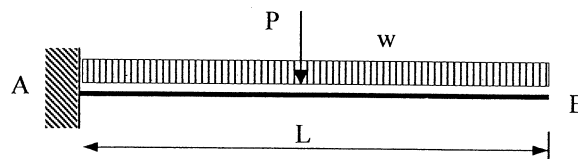

Figure 4
- (b) A cantilevered beam is loaded with a distributed load w and a central point load P as shown in Figure 4. Using Castigliano's second theorem, determine the rotation and vertical deflection at end B of the beam. (14 Marks)